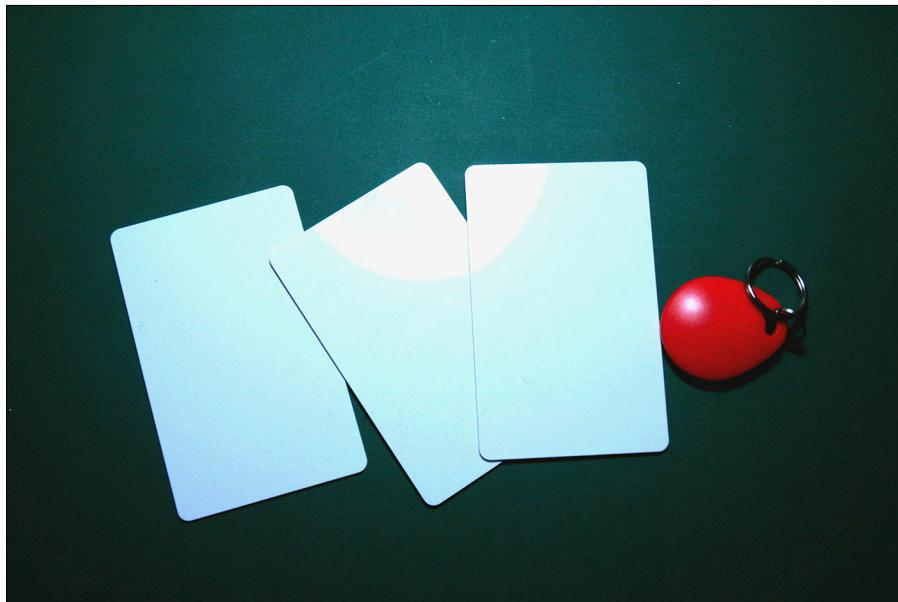
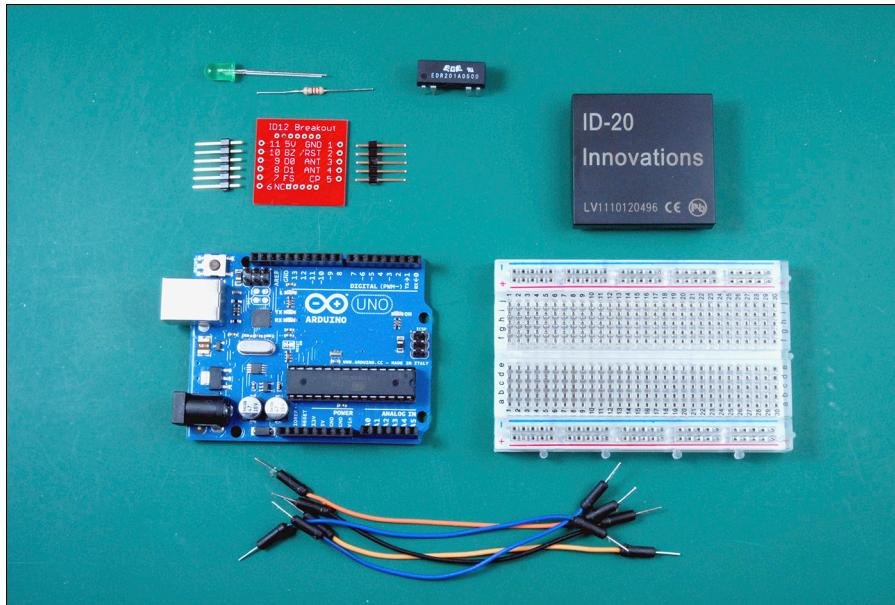

Figure 9-1:
Figure 9-2:
The tag is an electronic circuit that is usually embedded within some kind of practical physical package, depending on the particular application. Figure 9-1 shows some examples. For security access, the circuit is embedded into plastic cards the same size as credit cards, which are easy to carry around in wallets and purses. Other examples include key fobs and self-adhesive labels. The variety is almost endless. Thinner and cheaper systems are used for inventory control. More expensive and bulkier systems are used for things such as shipping container tracking and electronic toll road systems, including SpeedPass or E-ZPass.
The parts you need to build the reader are shown in Figure 9-2. This list only includes the parts for the reader, but you also need a tag or tags to read. You can choose from literally hundreds of RFID tags. The key fob 125kHz RFID tag shown in Figure 9-1 would work just fine.
- ✓ A 125kHz RFID tag, such as the key fob tag shown in Figure 9-1 (Cool Components #000648). SparkFun sells a plain white credit card style tag, too (SparkFun #COM-08310).